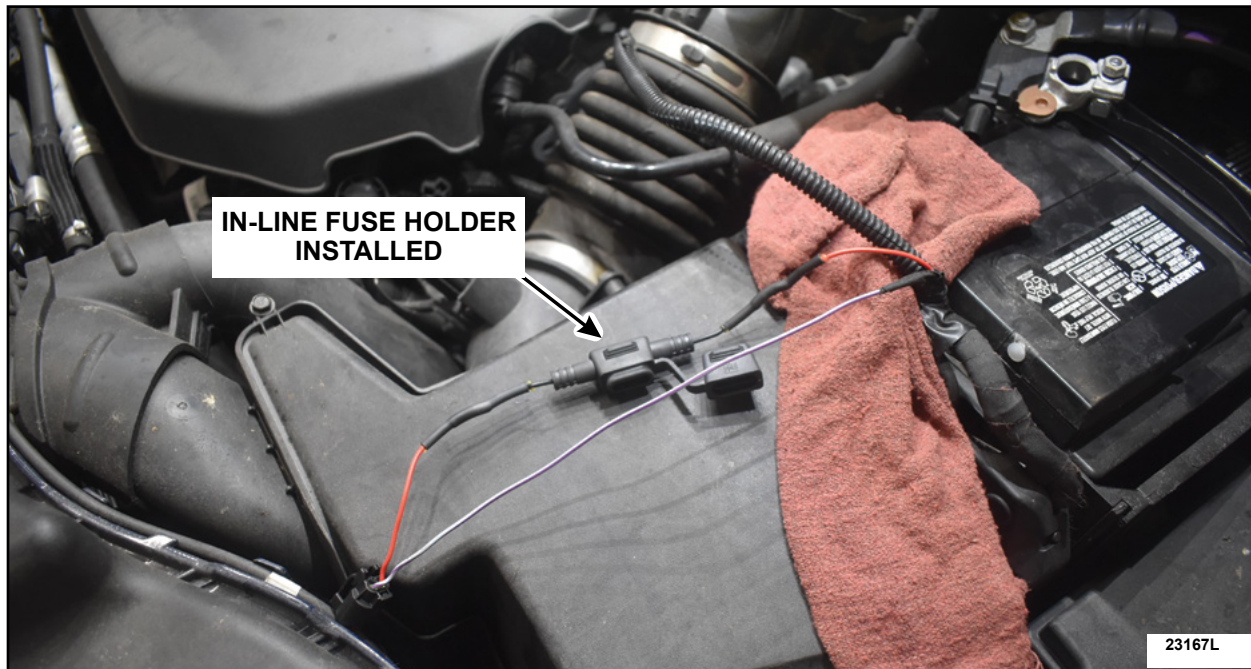

FIGURE 7
9. Use the instruction sheet found in the terminal splice kit provided, (Part Number 3U2Z-14A088-AB), to crimp the in-line fuse holder into the red wire and to install heat shrink tubes. Figure 7 shows the in-line fuse holder installed. Then, install the 3 amp fuse provided in the parts kit and close the fuse cover.